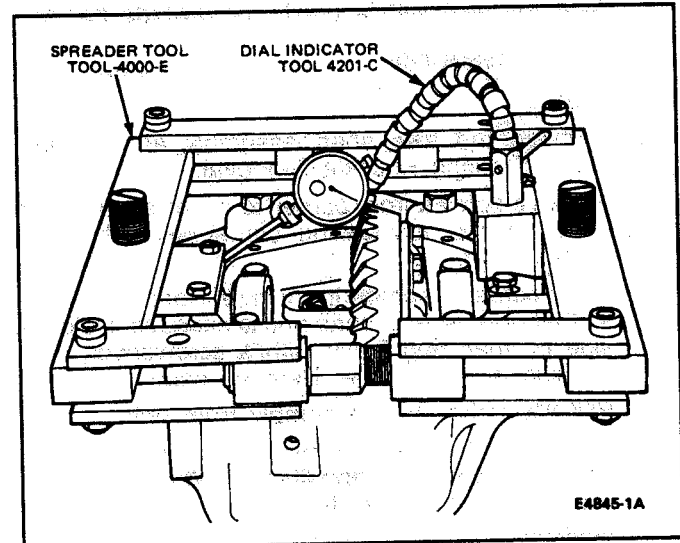

FIG. 19 Installing Spreader
4. Mount Spreader Tool 4000-E and Spreader Adapter T80T-4000-B on carrier. Place a dial indicator, TOOL-4201-C or equivalent, on the carrier and spread the housing (Fig. 19). **Do not spread the carrier over 0.25mm (0.010 inch).**